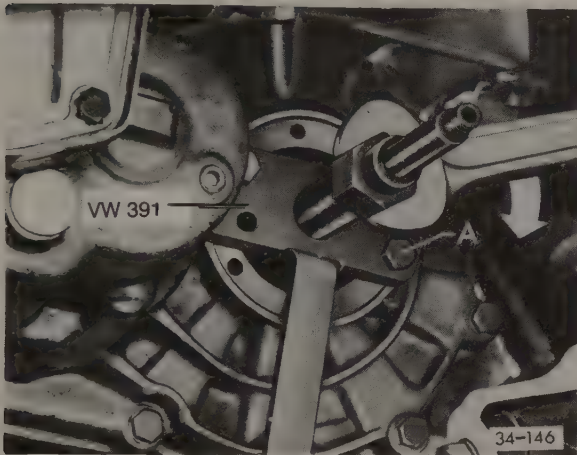

Fig. 6-4. Drive flange being removed. Puller VW 391 shown. Puller mounts to drive flange with M8 x 30 bolts (A).
3. Remove the drive flange from the transaxle using a puller as shown in Fig. 6-4. Inspect the flange and plan to replace it if there is a groove worn where it contacts the oil seal.